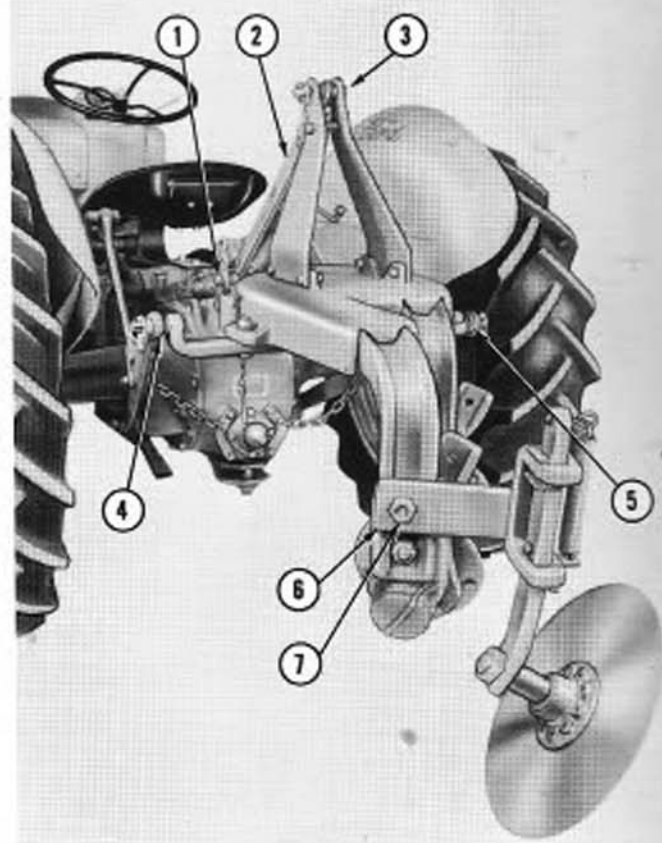

Figure 3
- a. Back the tractor up to the plow frame and attach the lower links to the cross shaft as shown at (4) and (5), Figure 3.
- b. Attach the tractor top link (2), Figure 3, in the lower hole (1) in the tractor three hole rocker. The top link should be adjusted to its shortest length.
- d. Raise the plow frame slowly with the Ford Tractor Hydraulic Touch Control lever until the top link is aligned with the hole (3), Figure 3, in the "A" frame. Secure with the pin and lynch pin provided and continue to raise the plow frame to transport position.
- e. Attach the tail wheel support bracket (6), Figure 3, to the bolt in the long beam and secure with the lockwasher and nut (7).